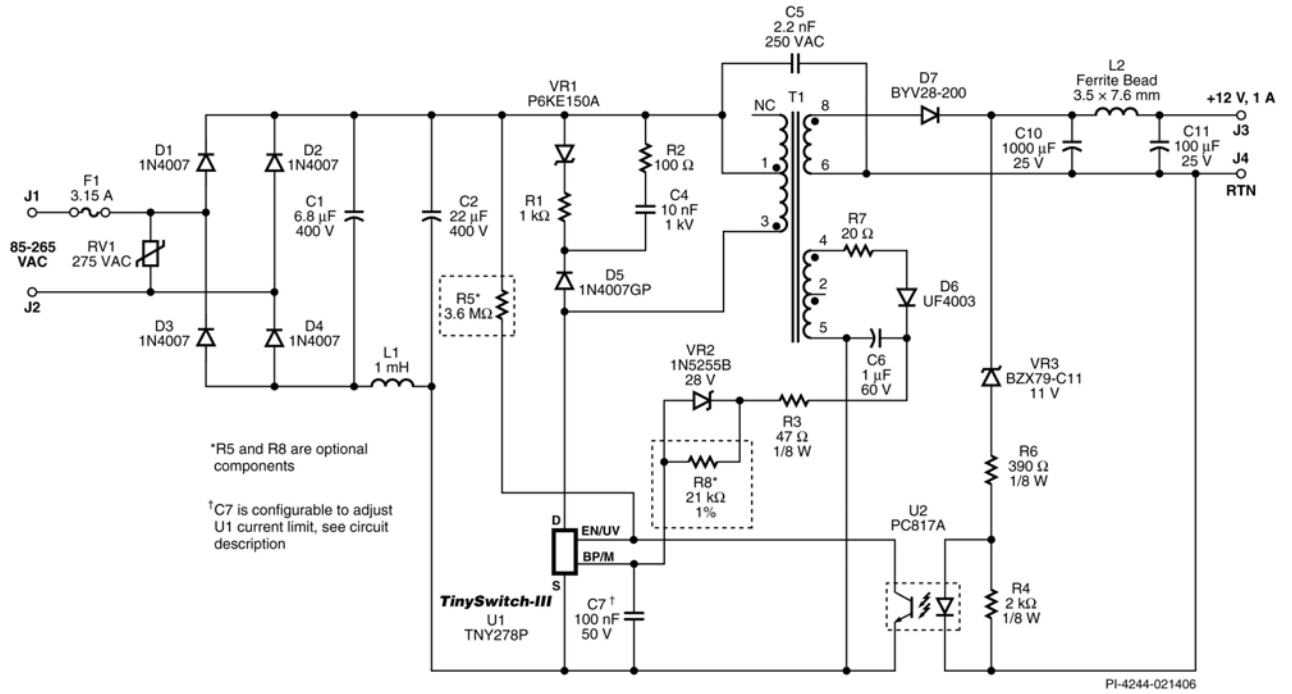

Figure 2 – RD-91 Circuit Diagram.
This flyback power supply was designed around the TNY278PN (U1 in Figure 2). The output voltage is sensed and fed back to U1 through optocoupler U2. That feedback is used by U1 to maintain constant voltage (CV) regulation of the output.